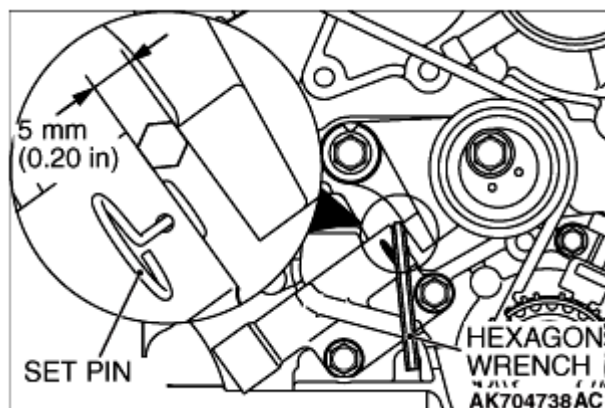

Fig. 46: Pressing Special Tool Intake Side Camshaft Sprocket
4. With the special tool inserted up to the insertion guide line, press the special tool against the intake side camshaft sprocket **Fig. 45**) and spread and hold the timing chain tension side guide **Fig. 46**.